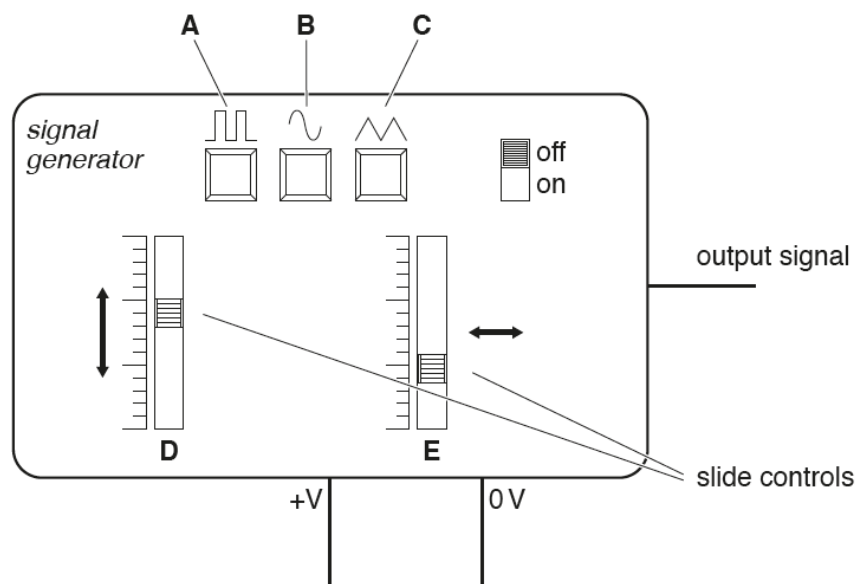

Fig. 2
(c) Fig. 2 shows a virtual signal generator.
(i) State the name of the wave form at **A**, **B** and **C** in Fig. 2.
- (ii) Fig. 2 shows two slide controls, **D** and **E**.